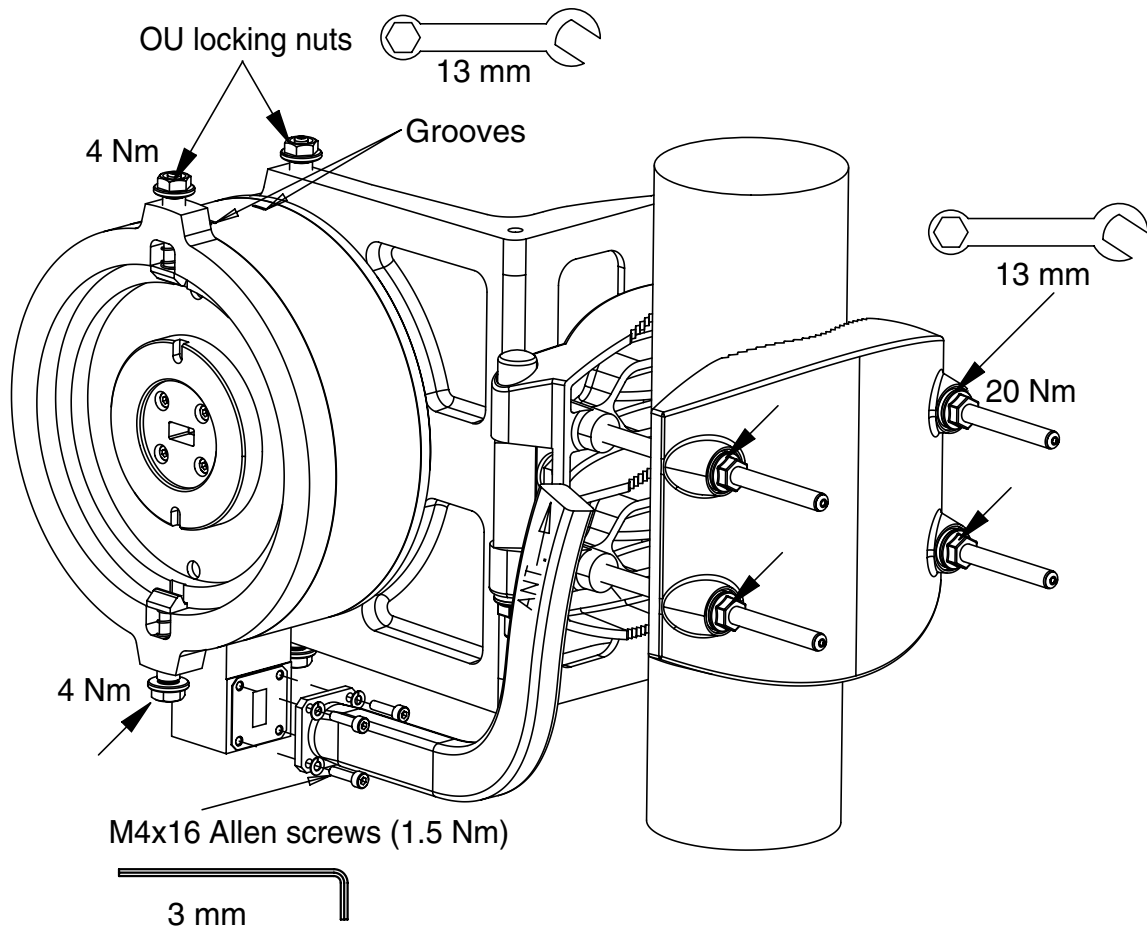

Figure 16. Installing the 7-15 GHz coupler
Remove the protective tapes from the waveguide flanges of the coupler. Do not peel off or damage the foil covering the waveguide opening. Fix the waveguide to the coupler with four M4x16 Allen screws (see Figure 16). Tighten the screws with a 3 mm Allen key. The torque is 1.5 Nm.
The coupler input with the lower insertion loss from the radio to the antenna is marked with one groove (I) on the top of the coupler (the side closer to the pole, see Figure 16). The coupler input with the higher insertion loss is marked with two grooves (II) on the top of the coupler. See *Product Description* for the values of the insertion loss.